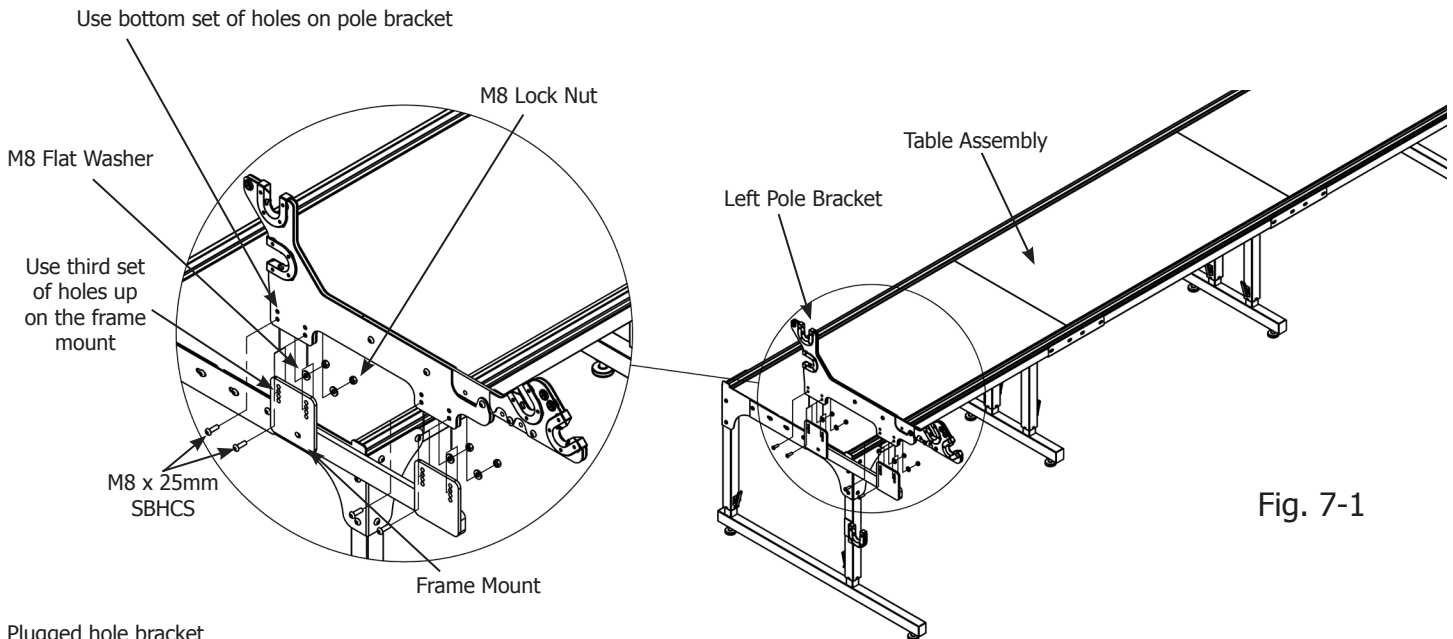

Fig. 7-1
Attach the plugged-hole pole bracket assembly to the frame using four (4) M8 x 25mm SBHCS. Thread the screws through the bottom set of screw holes on the pole bracket assembly and into the middle set of holes from the bottom of the frame mount. The screws should be threaded from the outside of the frame to the inside of the frame. On the end of each screw, slide a flat washer followed by a lock nut (as shown in Fig. 7-1).